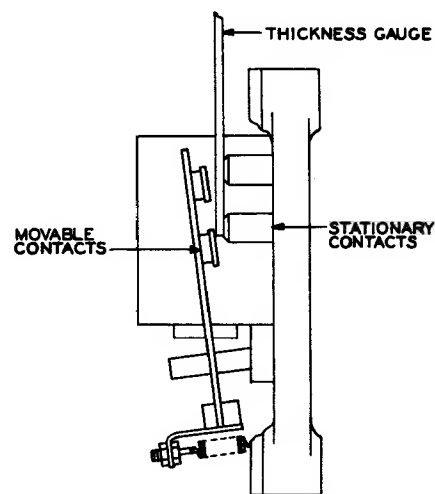

Fig. 5 - Method of Measuring Contact Gap
**2.06 Contact Gap:** Minimum contact gap for each type of relay shall be as listed in Table A. Use thickness gauge or scale. Where contact gaps on one side of contact spring meet requirements and it is difficult to apply gauge to the contacts on the other side of the spring, the clearance on these contacts may be assumed to be satisfactory. The contact gap should be measured by inserting the thickness gauge between the movable and stationary contacts. On B, D, E, L, KS-5635, KS-8854, and KS-15601 relays, the gauge shall pass between the contacts. On A, C, S, SC, and SS relays, the gauge shall be placed as shown in Fig. 5 and shall extend across at least 3/4 of the diameter of the stationary contact nearer the armature hinge before touching the movable contact.